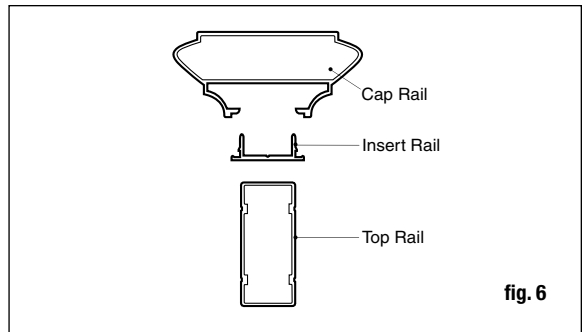

fig. 6
**Step 13 (optional)** Cut the cap rail and cap rail insert to length. (Note: the cap rail will be 1/2" longer than the top and bottom rails.) Center the cap rail insert on top of the top rail and pre-drill seven 1/8" pilot holes. Attach the cap rail insert to the top rail with seven 1/2" screws. Apply exterior-grade metal construction adhesive to the mating edges of the insert rail. Position cap rail over the insert rail (fig. 6). Install by pressing down, starting from one end and working to the other until the cap rail snaps into place. Gently tap with a rubber mallet if needed.